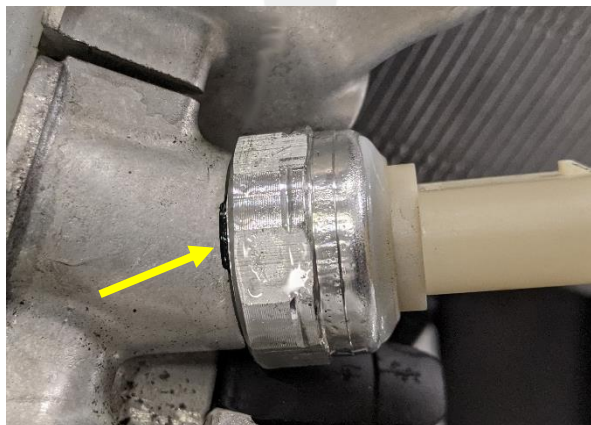

Figure 12 – O-ring pinched
- c. If the subcool high pressure P/T sensor O-ring appears to pinch (Figure 12), or no longer slides into the chamfer, stop and reverse thread the P/T sensor until the O-ring no longer appears to be pinched.
- c. If the high pressure P/T sensor O-ring appears to pinch (Figure 12), or no longer slides into the chamfer, stop and reverse thread the P/T sensor until the O-ring no longer appears to be pinched.
- c. If the low pressure P/T sensor O-ring appears to pinch (Figure 12), or no longer slides into the chamfer, stop and reverse thread the P/T sensor until the O-ring no longer appears to be pinched.